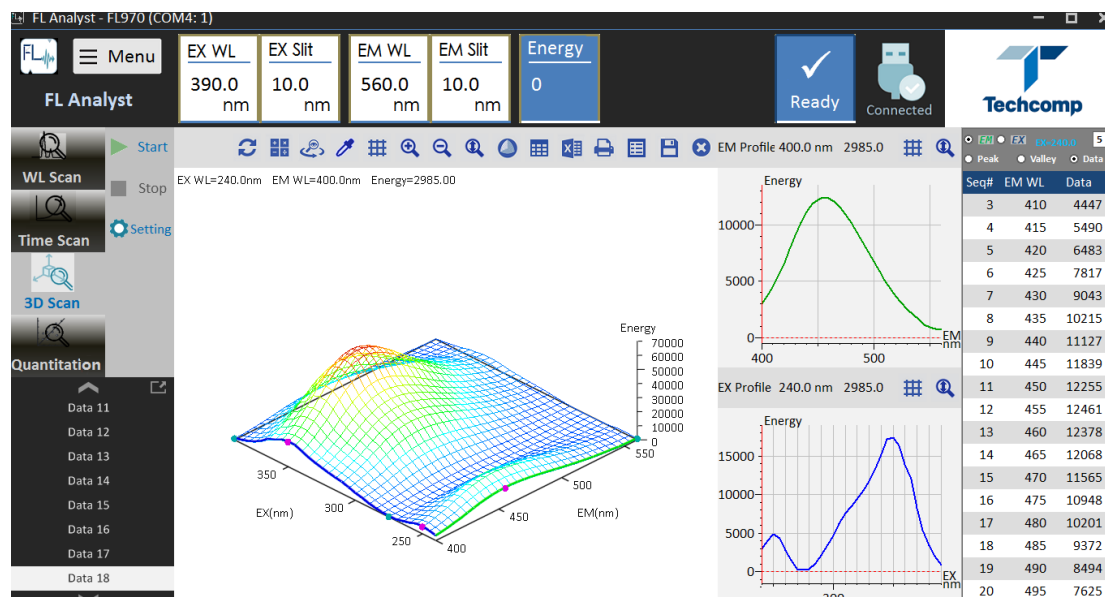

Figure 3-46 Display window of the end of 3D scan
- 1) Click “Start”, at the end of the scan, the following 3D spectra appears (Figure 3-46):